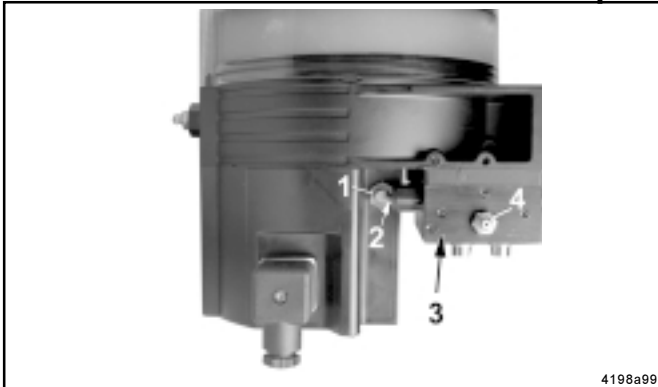

Fig. 16 - QLS 301 with back position of the SSV divider block
- SSV divider block mounted on the back (see fig. 16)
- When all lubrication points have received lubricant, an internal proximity switch 1 Fig.16 turns the motor off, completing one lubrication cycle.